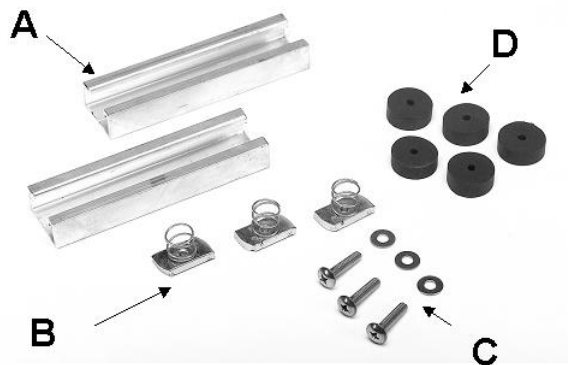

Figure 1.
1. Drill two holes in both Unistrut channels (A in FIGURE 1), using a 9/32 (.281) drill.
1. Slide Unistrut spring nut (B in FIGURE 1) into channel and rotate 90° to seat nut in channel V-groove. One nut is required for the top channel and two for the bottom channel.
- Place the stainless steel bolts (C in FIGURE 1) through the mounting holes molded into the charger.
- Place the neoprene rubber washer (D in FIGURE 1) over the bolt, align bolt with spring nut and tighten.